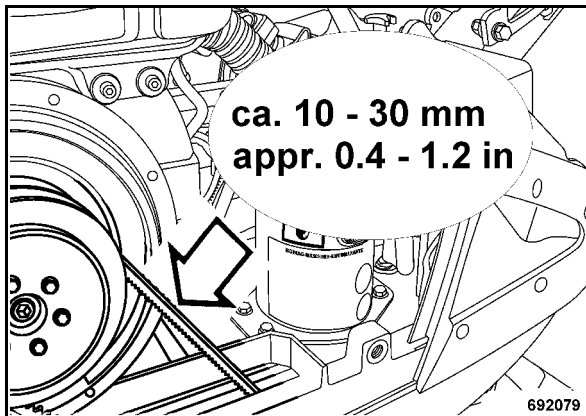

Fig. 70
- Check condition and tightness of V-belt (Fig. 70).